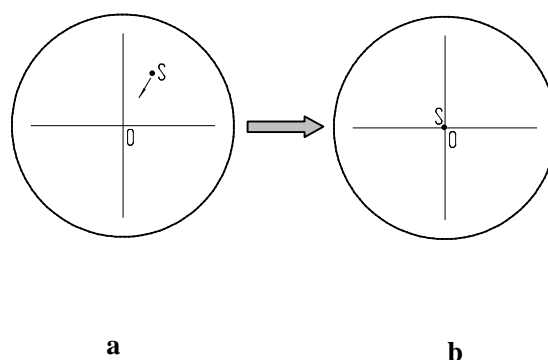

Fig.12
(6) If there is strict synchronization requirement for eyepieces and photographic images (consistency between the center and direction of the image), a synchronization adjustment will be necessary as follows:
a. Push in push-pull rod 4, observe with eyepieces. Find a feature point in the field of view (a readily identifiable target, such as S point in Fig. 12-a), move it to the center of the field of view. If there is a division eyepiece, move the target to the reticle intersection of the division eyepiece, as shown in Fig. 12-b.